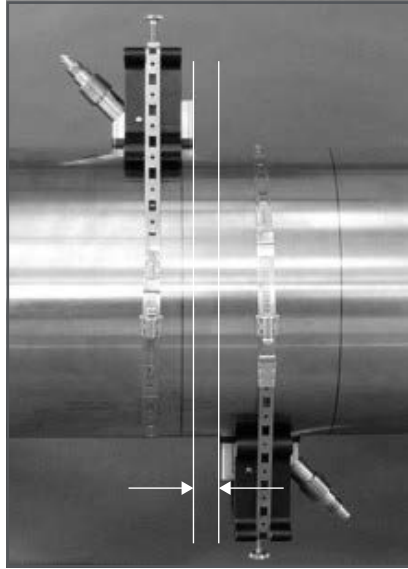

Figure 36: Distance Between Transducer Faces
2. Approximate the axial distance from one transducer face to the other transducer face, as shown in Figure 36.
3. Lay the first strip of dampening material flat. Cut a strip to a width equal to the distance between transducer faces (the distance illustrated in *Figure 36*).